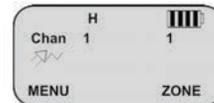

Figure 1
3. On the Master radio, select "Menu" using the left radio softkey. *(See Figure 1)*